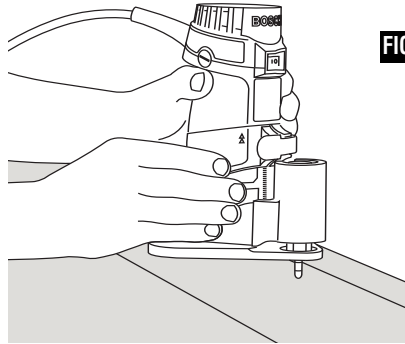

FIG. 22
The PR004 Offset Base is designed for routing in confined areas, especially for trimming laminates in areas that are inaccessible with the standard fixed base, especially locations that are close to adjacent vertical surfaces, such as the tops of already-installed counter backsplash backsplashes (Fig. 22).
1. The offset router should be gripped with one hand gripping the motor gripping area and the other gripping resting on the top of the offset spindle holding the front of the motor (Fig. 22).